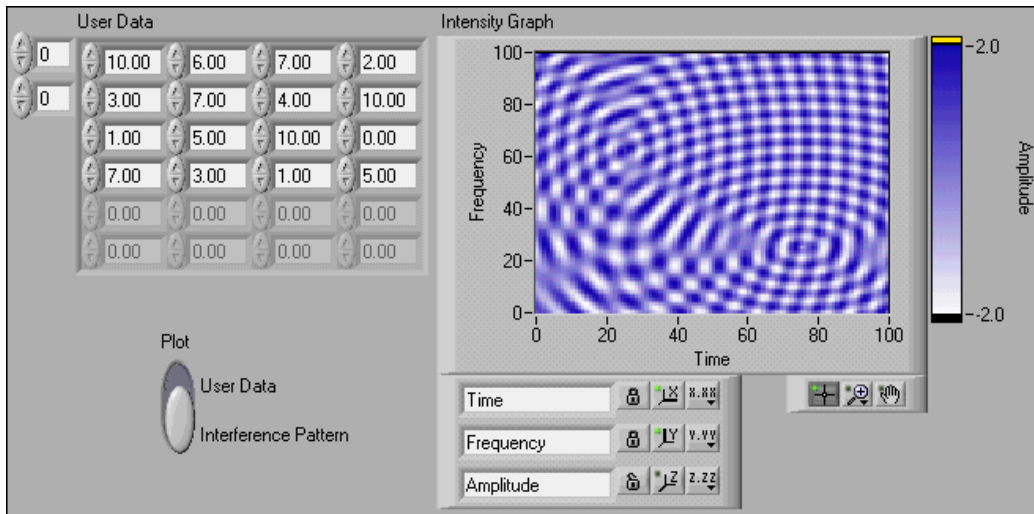

Figure 7.29
1. Open and run the Intensity Graph Example (Figure 7.29) VI located in the C:\Exercises\LabVIEW Basics I directory. By default, the VI plots an interference waveform. A **Property Node** on the block diagram defines the color range used in the intensity graph. You can change the color range by opening the block diagram and modifying the **Color Array** constant.